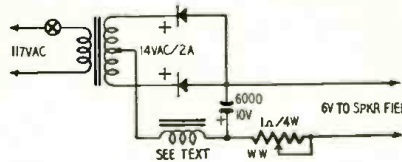

Fig. 1—A simple full-wave rectifier.
A. Most electrodynamic auto radio speakers have 4-ohm fields which require approximately 1.5 amp at 6 to 6.5 volts d.c. Suitable supplies are shown in Figs. 1 and 2. However, the cost of the supply components is likely to be greater than a medium-priced extended-range 8- or 12-inch PM speaker which we would recommend for a console radio.
A full-wave center-tapped rectifier is shown in Fig. 1. This circuit can be
stocks. The rectifier may be a Mallory 1B12C1J, *Seletron* U1B1S1B, or equivalent. Filter chokes in Figs. 1 and 2 should have an inductance of about .05 henry and a current capacity of at least 2 amp. These are not generally available on the open market. You can construct a suitable choke by removing the winding from a 100-ma receiving-type choke and replacing the winding with No. 14 cotton-covered enameled wire. Adjust the air gap for best filtering action.